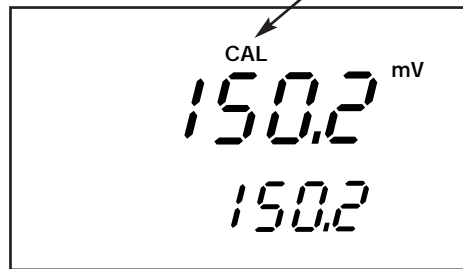

Figure 24
2. Press the **CAL/MEAS** key The **CAL** indicator appears above the primary display. The primary display shows the relative mV reading and the secondary display shows the absolute mV value. —See Figure 24.